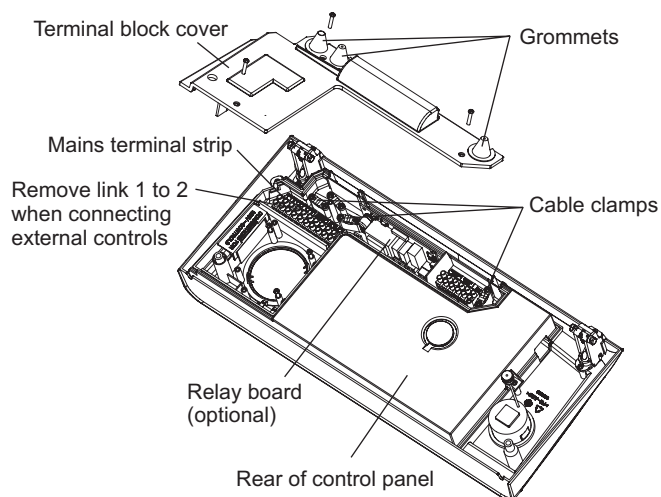

Fig. 16
4.10 CONNECT THE MAINS SUPPLY - Fig. 16
Remove the three screws securing the terminal block cover from the back of the control box (see Fig. 16). Pass the mains supply cable through the cable clamp and connect as follows:- Brown to L, Blue to N and Green/Yellow to \perp . Ensure correct polarity.